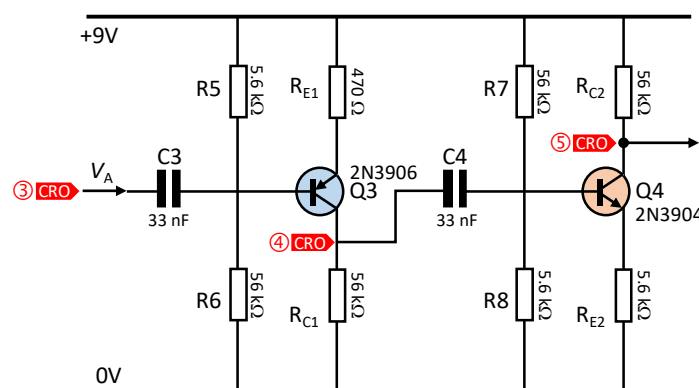

Fig. 4. Two-stage (cascaded) common-emitter amplifier.
Amplification is necessary when the signal amplitude is low. This is usually the case for signals from photodiodes. Phototransistors have internal amplification (current gain,  $h_{FE}$ ) due to its npn structure and do not require external amplification for the purpose of this lab. For photodiodes, it is possible to increase the signal amplitude by increasing the surface area, but this is impractical in most cases. Amplification is thus needed for photodiodes. In this lab, the aim of the amplifier is to increase  $V_{p-p}$  at ③ such that it is enough to drive the output stage later. The amplifier is a two-stage (cascaded) *common-emitter* (CE) BJTs as shown in Fig. 4. The basics of CE amplifier has been covered in 2102386 and will not be repeated here. The first of the CE stage uses a pnp BJT (Q3, 2N3906), the second uses an npn BJT (Q4, 2N3904). This serves to familiarize students with both types of BJTs though in practice you can use just one type to simplify life.
► **Build** the two-stage amplifier as shown in Fig. 4. **Design** (determine R's) the first stage to have a gain of 5, the second 10 (thus effective gain of 50). **Test** it: use a Function Generator or the oscilloscope (“GenOut” BNC, press “WaveGen” to configure) to produce a sinusoidal waveform ( $V_{p-p} = 100$  mV, 5 kHz) and apply at the input of the amplifier ③. Record the waveforms at the outputs (collectors) of the first ④ and second ⑤ stage. 📁③④⑤